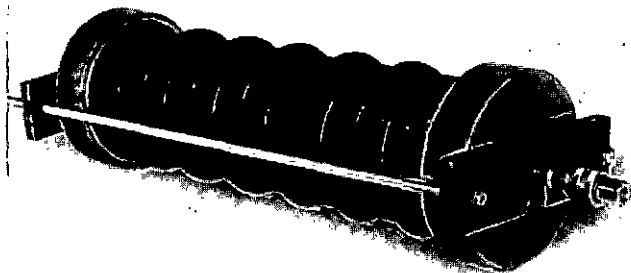

Fig. 7-22. The Element Installed Into The Bundle Tester.
- c. Put the element into the fixture. Put the fixture so that the air connection fitting goes through the notch in the fixture plate. Install locking clips into the bars of the fixture, Fig. 7-22.